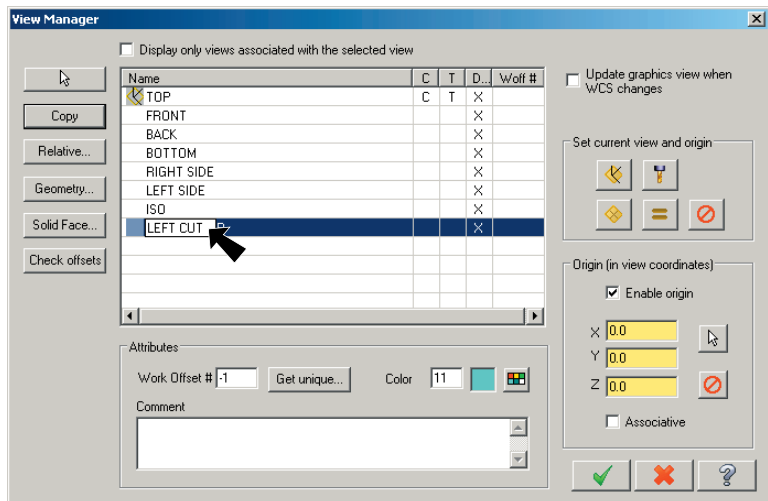

Fig. 56
Step 4. Rename **COPY OF TOP** to **LEFT CUT**. To rename, slowly click the view name and key-in the new name, **Fig. 56**.